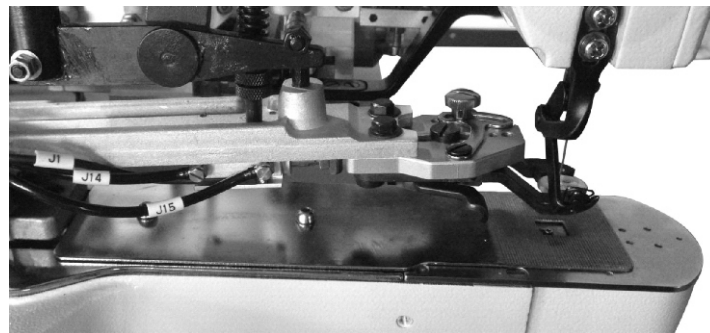

Fig.5
2. When change buttons, in order to feeding buttons correctly, according to the different size of button's diameter to adjusting the J1 sensor position. (as shown in Fig.5)